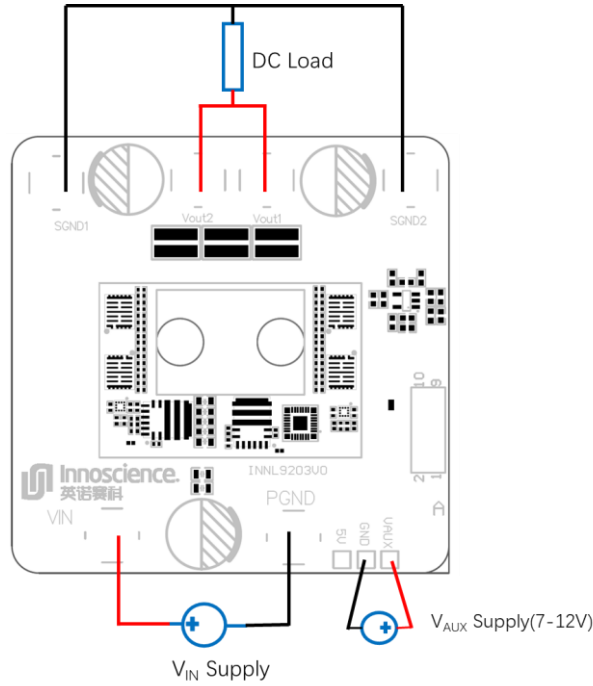

Figure 7 Proper Measurement Equipment Setup
The 1kW LLC demonstration board is easy to set up to evaluate the performance of ISG3201 100V SolidGaN and INN040FQ015A. Before the test, we need to get all the equipment prepared, which includes two DC sources, electronic load, digital multimeter, and digital oscilloscope with 1 GHz bandwidth. Refer to Figure7 and follow the procedure below for proper connection and measurement setup:
a) With power off, connect the input power supply to V_{IN} to PGND as shown in Figure7.
b) With power off, connect the auxiliary source power supply to V_{AUX} to GND as shown in Figure7.
c) With power off, connect the load to V_{OUT} to SGND as shown in Figure7.